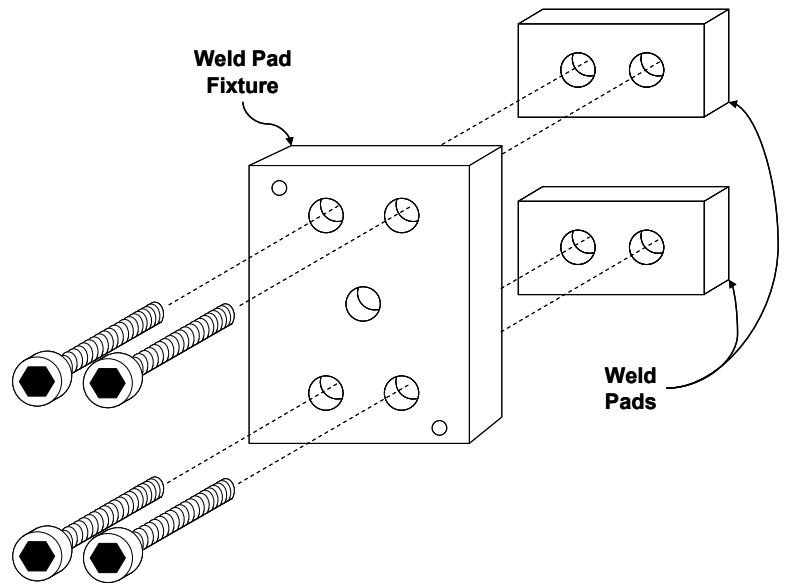

Figure 70: Weld Pad Mounting Fixture
- 4) Assemble the intermediate pads to the alignment/clamping fixture using the 1/4 x 28 bolts provided, as shown in Figure 70.